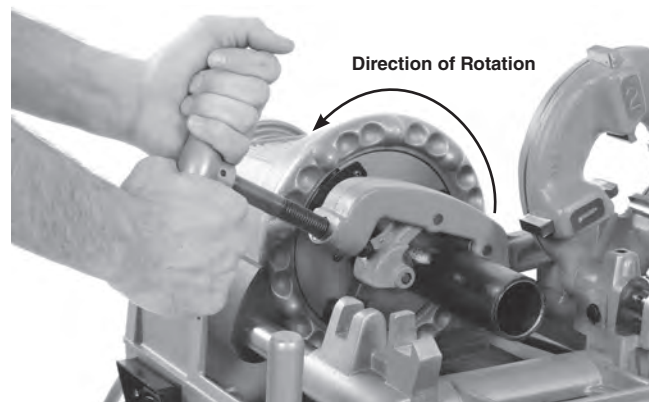

Figure 11 – Cutting with 732 Cutter
3. Move the ON/OFF (I/O) switch to the ON (I) position.
4. With both hands, grasp the pipe cutter feed screw handle (Figure 11).